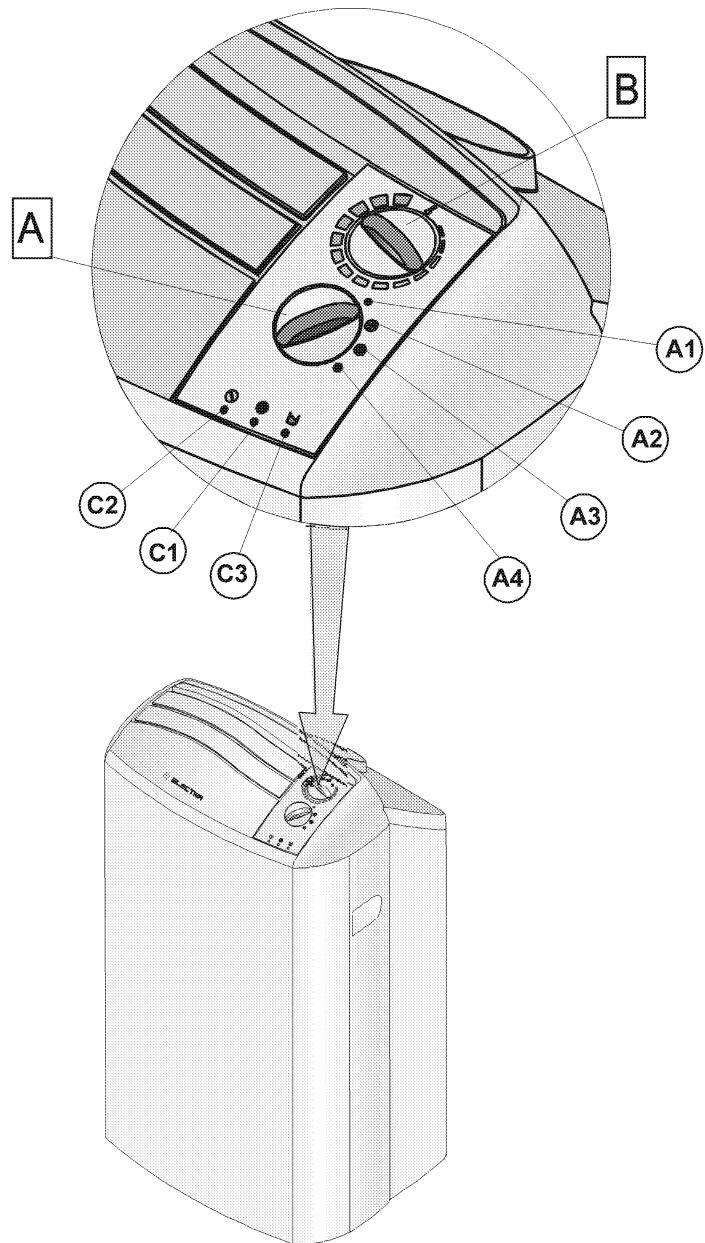

Figure 13
### ON UNIT CONTROL AND DISPLAY PANEL (see figure 13)
- The air conditioner must be connected to a permanent drain (See fig. 13). Turn selector-switch (A) to the (A4) low cooling mode. Indicator (C1) will light up.